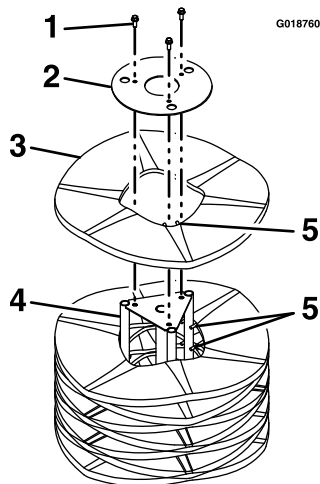

Figure 18
9. Remove the damaged broom segment(s). Install the new segment(s) by staggering the metal ring alignment fingers as shown in Figure 18.